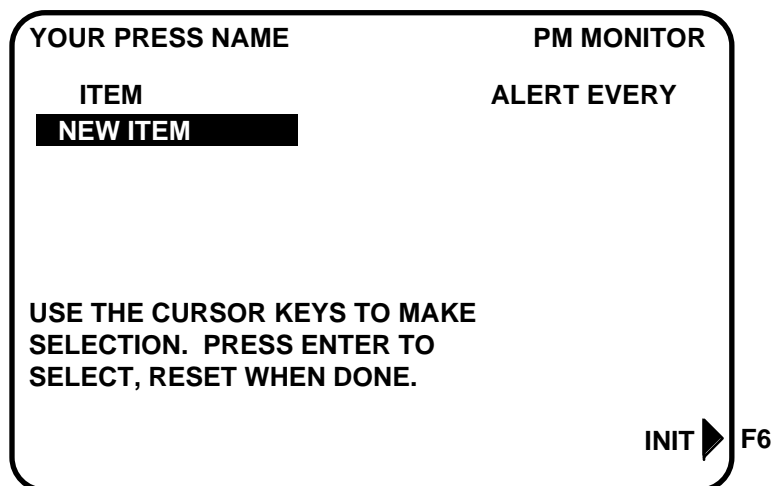

Figure A-4. PM entry screen
1. Go to the "PM Entry" screen (Figure A-4). Press F6 "Init".